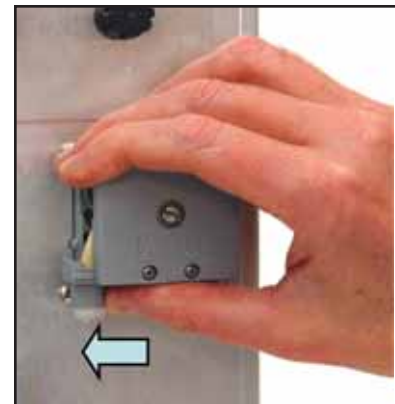

FIGURE 12-7.
4. Using your thumb as shown in Figure 12-7, push the tubing fitting straight outward until the fitting slides out of the socket. Repeat the process for the other fitting.